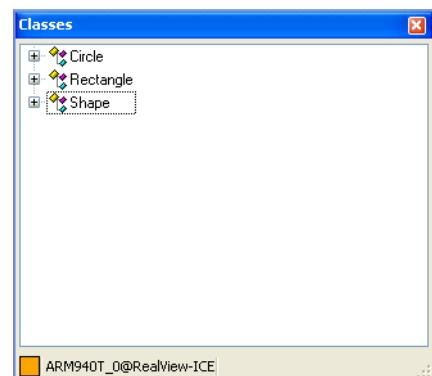

Figure 5-13 Classes view
4. Select **Classes** from the **View** menu to display the Classes view. Figure 5-13 shows an example: